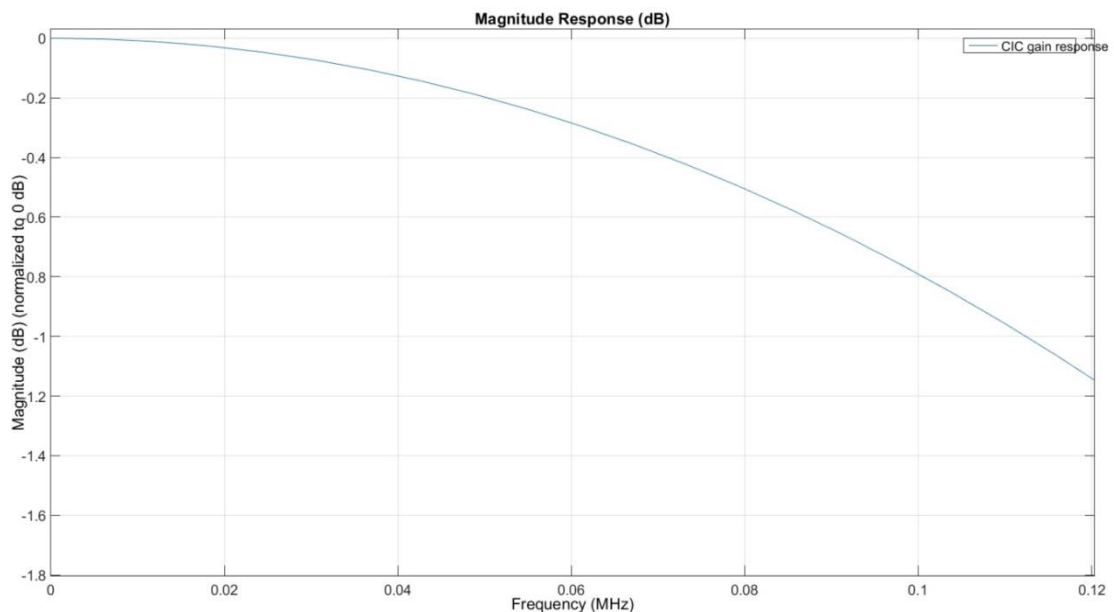

Figure 4: Pass-band droop detail of the CIC filter
- The second drawback is the pass-band droop. As the CIC has not a flat pass-band, the droop will degrade the pass-band of the final filter (Figure 4).